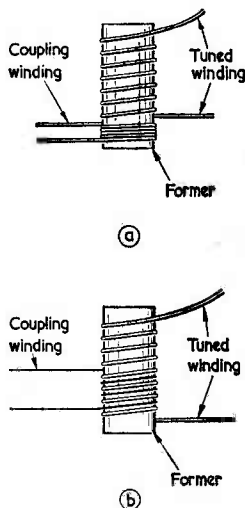
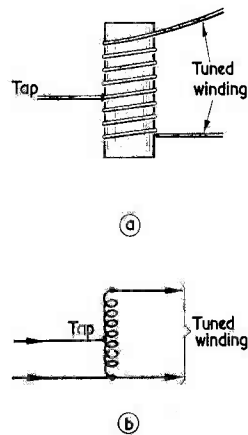

Fig. 162 (a). An r.f. transformer employing single-layer windings. The tuned winding could also be close-wound, as is the coupling winding
Fig. 163 (a). An r.f. autotransformer having a single-layer tuned winding
R.F. transformers intended for operation at frequencies higher than those associated with wave-windings employ single-layer tuned windings. Fig. 162 illustrates two types of coupling windings which may be employed with such transformers. In Fig. 162 (a) the coupling winding consists of a second single-layer winding which is positioned a small distance away from the tuned windings. In Fig. 162 (b) the coupling winding is interwound with the tuned winding. The coupling offered by the arrangement shown in Fig. 162 (a), can be varied by moving the coupling winding closer to or further away from the tuned winding. On the other hand, the coupling provided by the assembly of Fig. 162 (b) is fixed, and is, also, very tight. This coupling is, indeed, so tight that, apart from the possibility of damping of the tuned winding due to reflected resistive impedance in the circuit to which the coupling winding connects, it is also possible for *capacitive* or *inductive* reactances from the coupling winding circuit to be reflected into the tuned winding. The latter may cause the tuned circuit to shift from its correct resonant frequency. This effect need not necessarily be serious if the primary circuit impedance remains
The coupling method shown in Fig. 162 (b) is frequently encountered in the short wave tuned circuits of domestic "all-wave" receivers, where a high level of selectivity is not expected. The transformers will, then, be wound on inexpensive formers made of materials which fall into the Bakelite or Paxolin categories. Where high Q values are required it is more usual to employ a low-loss and/or ribbed former, whereupon the coupling arrangement of Fig. 162 (a) is preferable.
As with the wave-wound tuned winding, the tightest possible coupling to a single-layer coil is given by the autotransformer connection shown in Fig. 163. Since the coupling here is tighter than occurs with the coupling winding of Fig. 162 (b), the effects of reflected primary impedances are even more pronounced.³